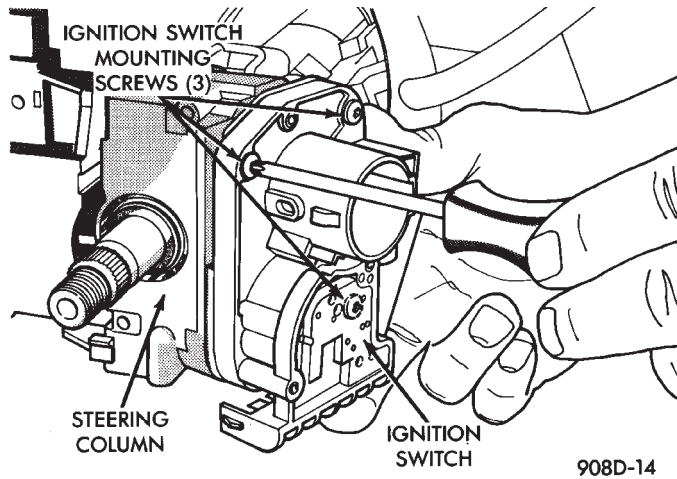

Fig. 1 Ignition Switch Screw Removal
- (1) Disconnect negative battery cable.
- (2) Tilt column: Remove tilt lever (counterclockwise).
- (3) Remove upper and lower covers (three screws).
- (4) Remove ignition switch mounting screws (Snap-on torx bit tool TTXR20B0 or equivalent required—Fig. 1).